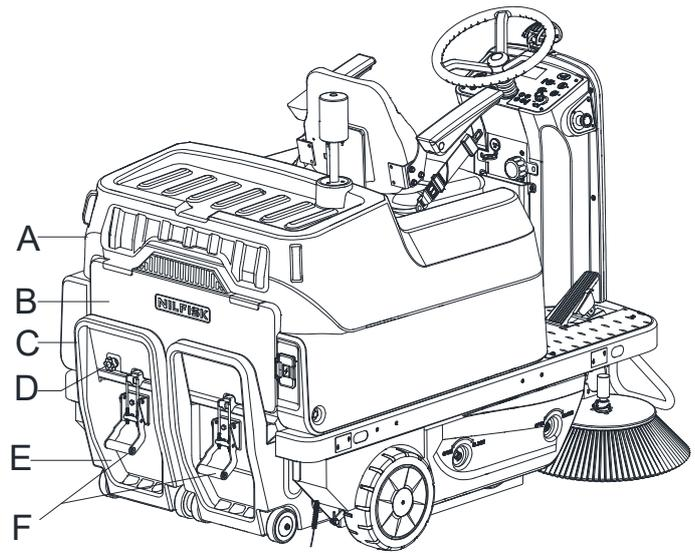

Figure 27
3. Lower the cover (A, Figure 27).
4. Open the hopper zipper using the handle (F, Figure 27).
5. Use the hopper handle (C, Figure 27) to remove the hopper (E, Figure 27).
6. Loosen the screw (D, Figure 27) to remove the hopper cover plate (B, Figure 27).